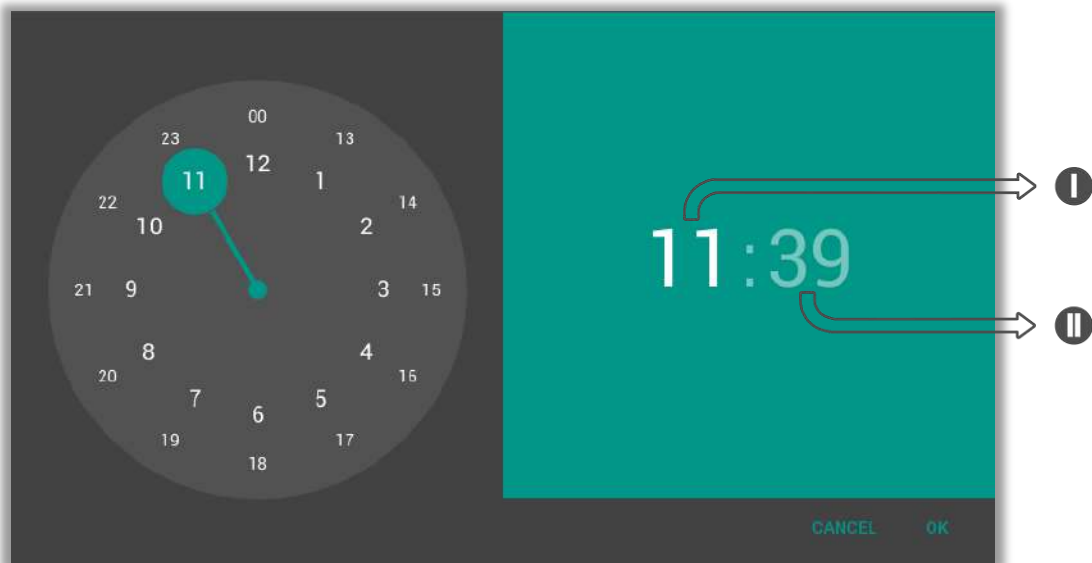

Fig. 62 : Time Window
After pressing the button, the Time Window in Figure 62 appears on the screen. This window consists of two parts, an analogue clock on the left and a digital clock on the right. The set time is displayed in the digital clock section. An hour or minute setting selection is made from the digital clock. Click on it to set the hour (I) or minute (II). The time is set from the analogue clock part.